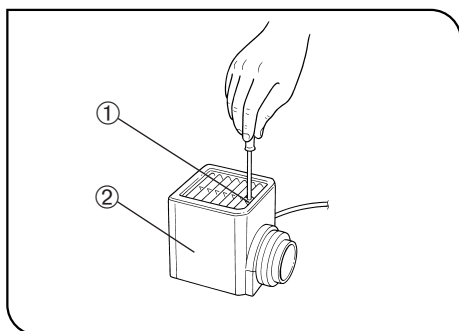

Fig. 77
2 Attaching the Halogen Bulb (Figs. 77 to 79)
5. Fit the lamp housing from up and tighten the clamping screw ① by applying downward pressure. (Fig. 77)